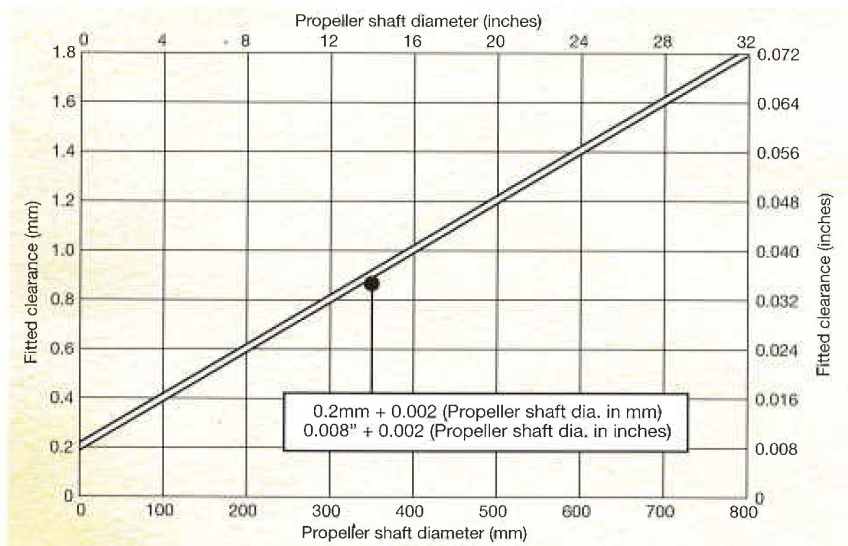

Figure 5: Fitted running clearance for water lubricated stern tube bearings
The recommended fitted running clearance for water lubricated stern tube and strut bearings in well aligned housings is obtained from Figure 5.
**Example:** For a water lubricated stern tube bearing used for a 356 mm (14") propeller shaft, find the fitted minimum clearance. From Figure 5, the required **running clearance** after fitting is 0.91 mm (0.036").
From Figure 5 the **running clearance** is 0.6 mm [0.024"]